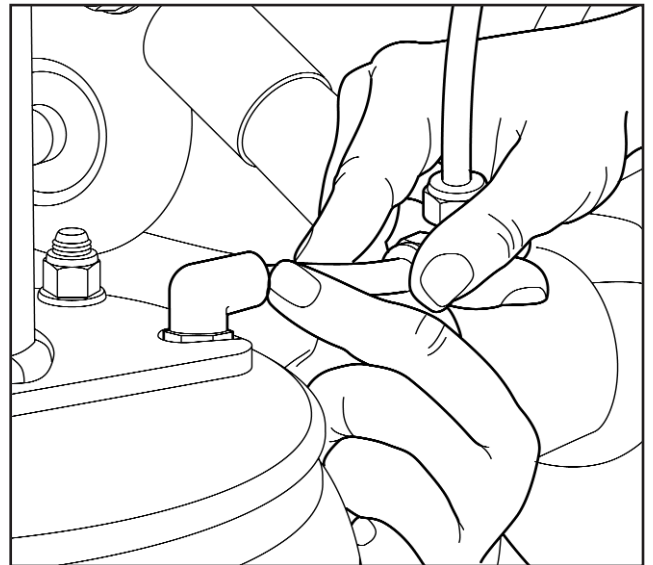

Fig 4.2
2. Remove the air inlet pipe from the push to connect fitting (Fig 4.2).